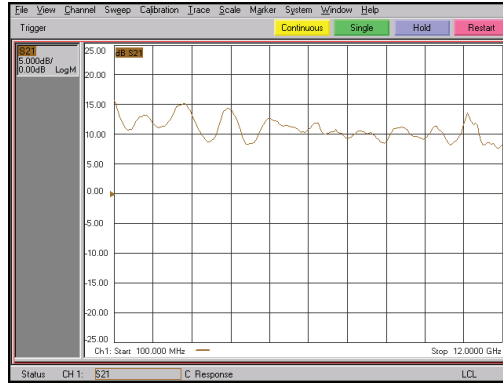

Figure 5. Probing results at location B
3. Perform the thru calibration. This will calibrate out all the losses moving the measurement plane to probe tip and point A. The response calibration yields 0 dB S21 as shown in Figure 5.